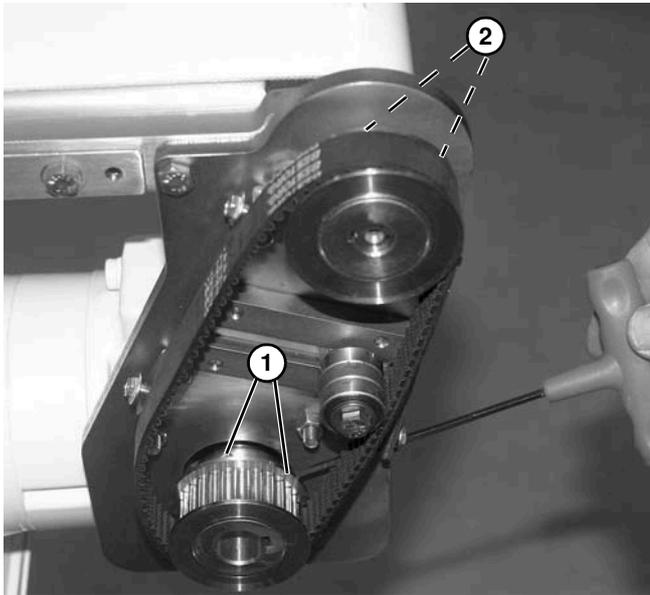

Figure 47
If timing belt does not slide over pulley flange, loosen two drive pulley set screws (Figure 47, item 1) and driven pulley set screws (Figure 47, item 2), and remove both pulleys with belt (Figure 48). Make sure to retain sprocket keys.